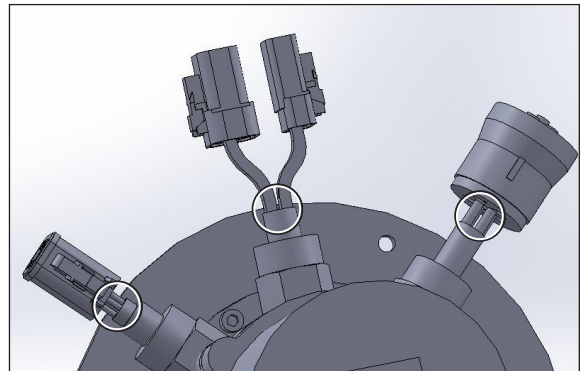

**Figure 3 — Bucket Style Slip Ring**
- If the slip ring is a bucket style, no repair is required (refer to Figure 3). Proceed to step 6.